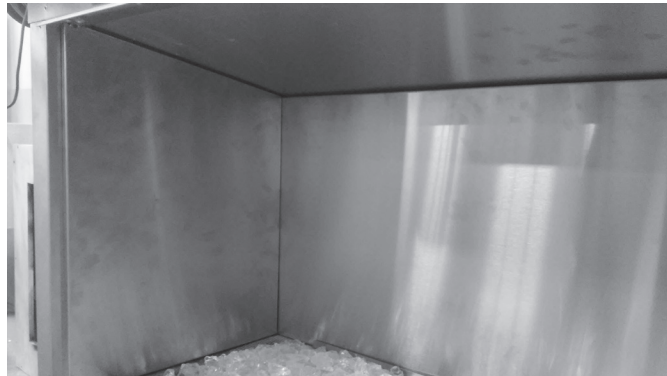

Figure 4 Left Overlay
5. Repeat Step 2 and 3 with left overlay. See Figure 4.